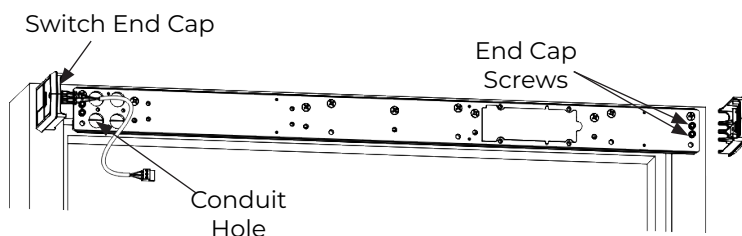

Figure 7
1. Install two (2) screws on each end of backplate leaving about 3/16" gap between head of screw and backplate. (Figure 7) Slide end caps behind screw heads and tighten screws. (Figure 7)